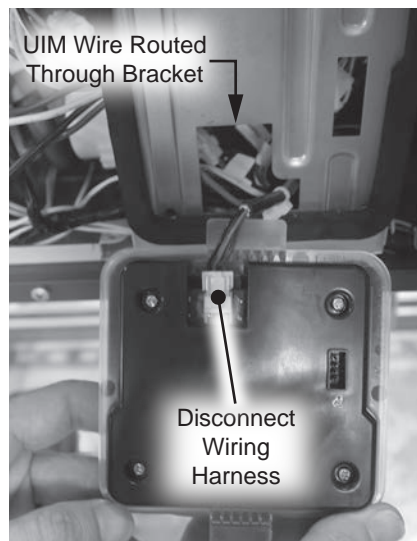

Figure 14 - Disconnecting UIM
- 6 Disconnect wire harness from UIM. See Figure 14.
- 12** Locate the new wire harness provided in the kit. Connect the wire harness to the PCB and route the wiring behind the gas valve and through the bottom opening of the UIM bracket. See Figure 14 for reference.